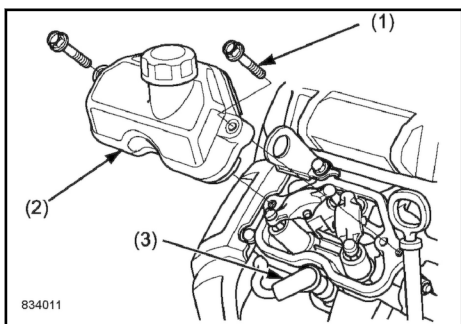

Fig. 174
1. Unscrew the cylinder head cover fastening screws (1) ↪ Fig. 174 and take off both cylinder head covers (2).
2. Pull off spark plug socket (3).